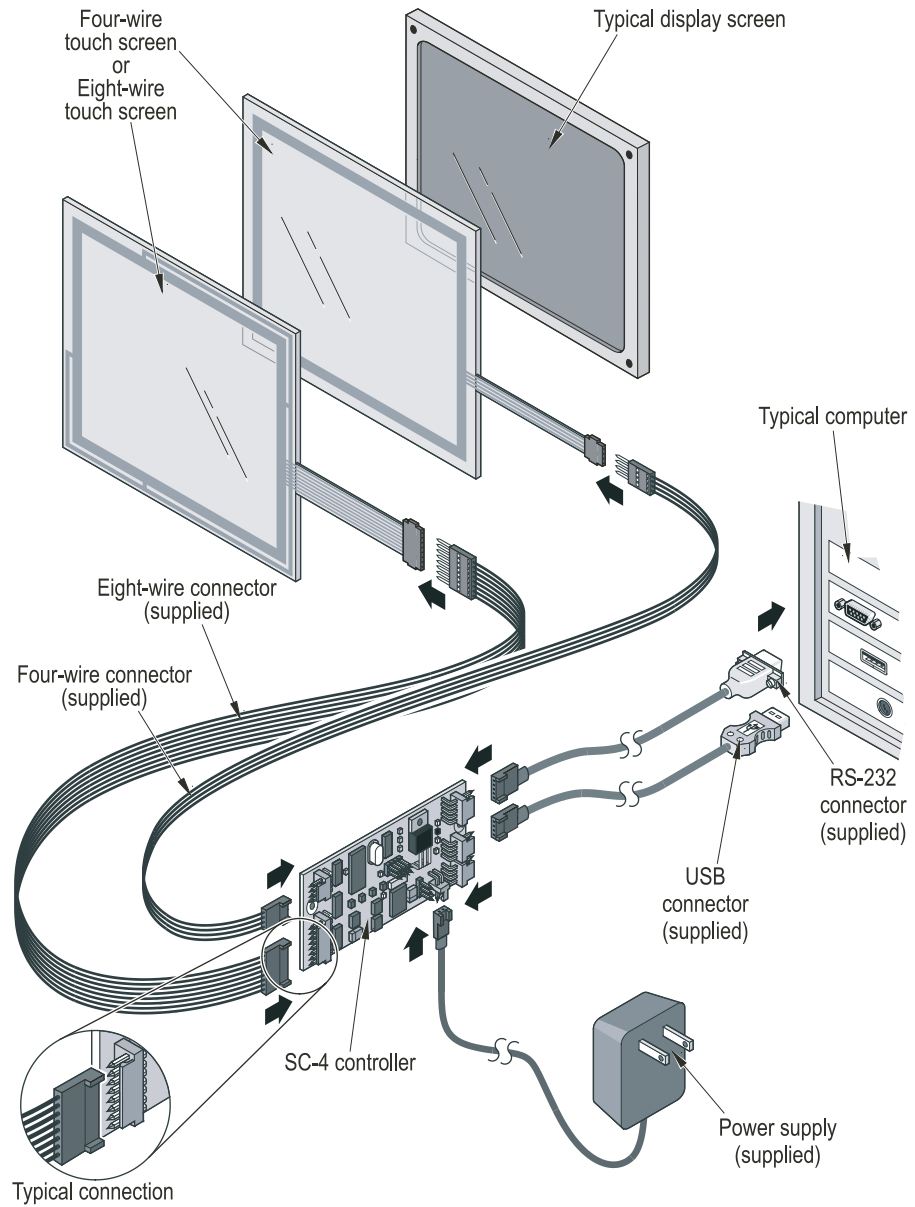

Figure 2: Connected components of the SC4 controller touch screen system
To connect your touch screen system components, refer to Figure 2 and follow the instructions in this chapter.
2. Connect the RS-232 cable's DB-9 female connector to a nine pin serial COM port on the back of the computer (Figure 2).
2. Connect the USB cable to the USB port on the computer (Figure 2).